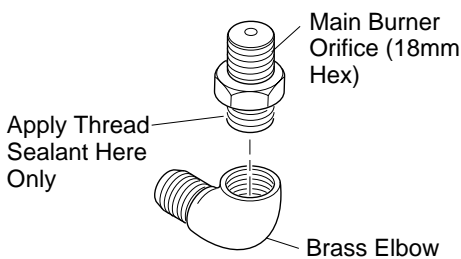

Figure 62 - Removing/Replacing Main Burner Orifice
6. Remove existing main burner orifice from brass elbow and replace with main burner orifice supplied with the fireplace. Note: The new main burner orifice for propane/LP will have the number 132 (Model MBDV37 only) or the number 139 (Model MBDV41 only) stamped on it for identification purposes. Apply a small amount of thread sealant to the orifice before tightening (see Figure 62, page 30). Sealant must be resistant to Propane/LP gas.
- Remove the burner by loosening the two 5/16" hex mounting screws (see Figure 62). Lift burner up and out.